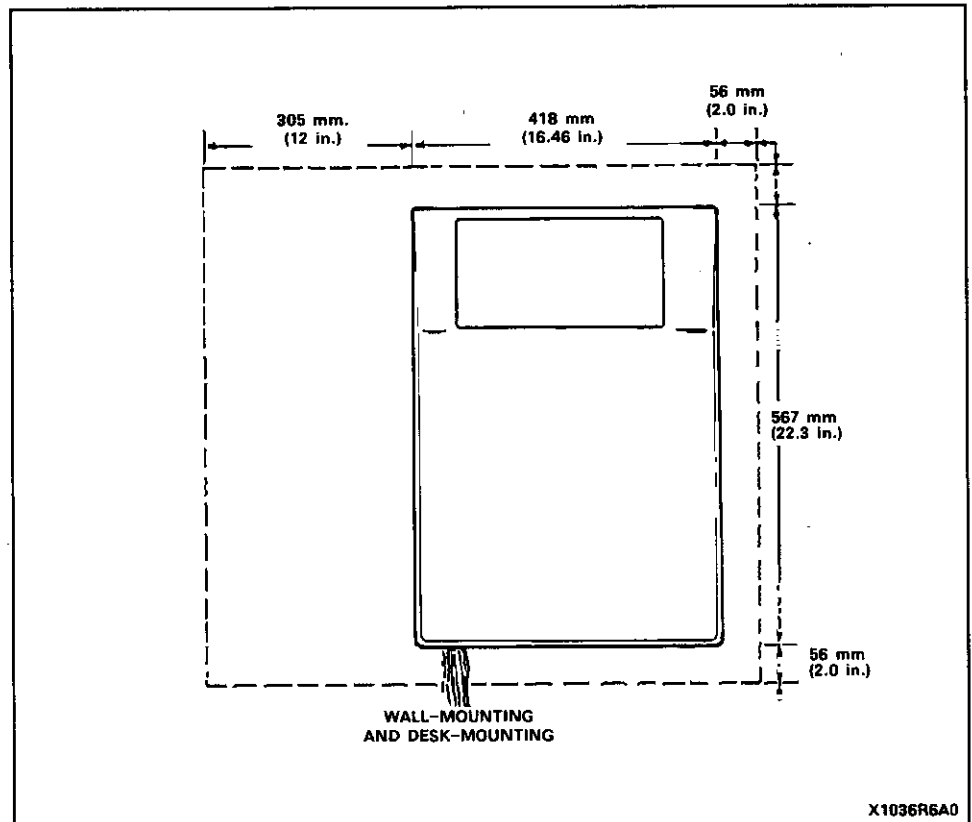

Figure 4-1 Minimum Space Requirements
4.03 The minimum space required for installation of the SX-20 system is shown in Figure 4-1.